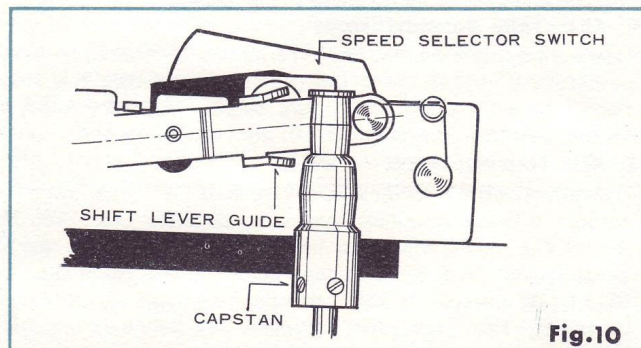

Fig. 10
- 3) Adjust the capstan section comes exactly on the center of the tape shift guide as shown in Fig. 10, and then tighten the two mounting screws securely.